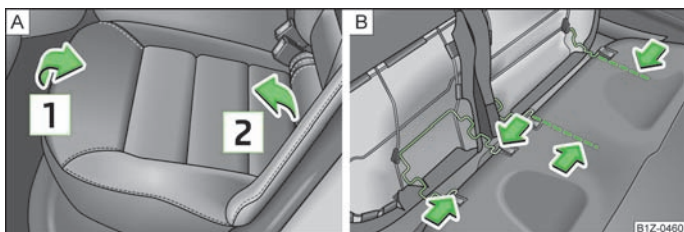

Fig. 47 Removing the seats
- Pull up the seat cushion in the direction of the arrow [1] » Fig. 47 and fold forwards in the direction of the arrow [2].
- Press the wire clamps in the direction of the arrow » Fig. 47 - B and remove the seat cushion from its holder.
- Press the wire clamp in the direction of the arrow » Fig. 47 - B and put it into the holder.